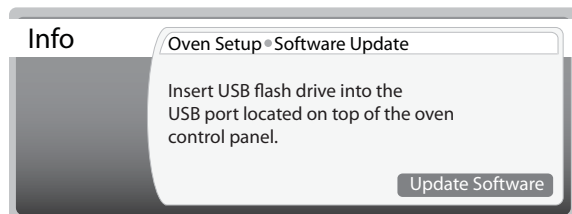

Figure 4.9: Insert USB Flash Drive Screen
6. Press Start or the inner CookWheel knob to select Update Software (Figure 4.9).